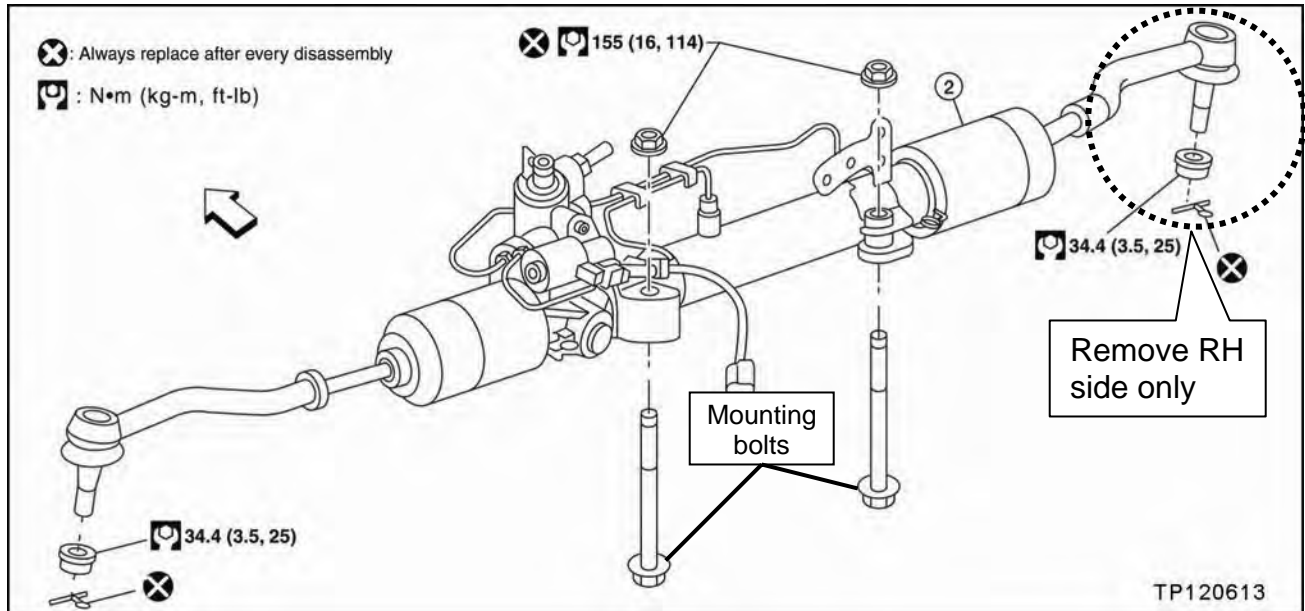

Figure 16
21. Remove the cotter pin and nut for RH side tie rod end (see Figure 16).
23. Remove the 2 steering gear assembly mounting bolts (see Figure 16).